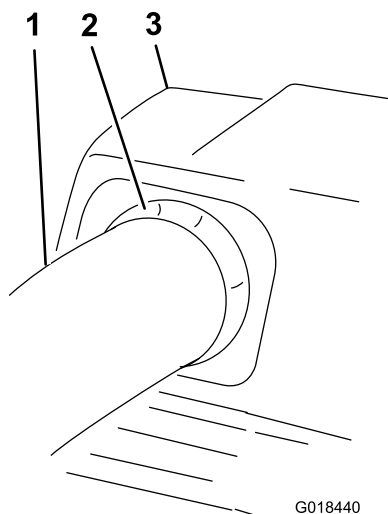

Figure 21
10. Pull the upper tube out slightly so that the seal extends outward and over the lower tube (Figure 21).
19. Pull the upper tube out slightly so that the seal extends outward and over the blower assembly (Figure 21).